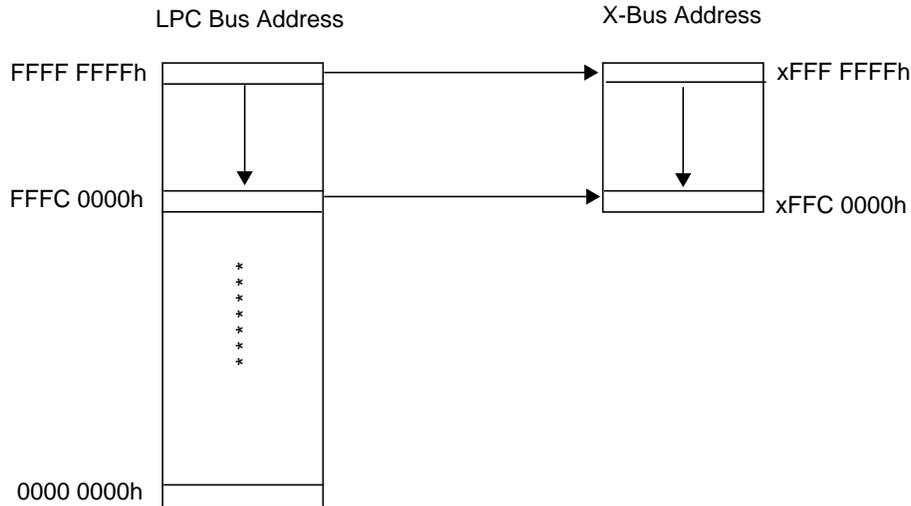

Figure 13. LPC-to-X-Bus Address Translation: 386 Mode-Compatible BIOS Range
- User-Defined Memory Zones (MEM 0 and MEM 1) and 386 Mode-Compatible BIOS Range: The 28 least significant address lines of the LPC address are used as the X-Bus input address. Figure 13 illustrates the mapping for this zone.